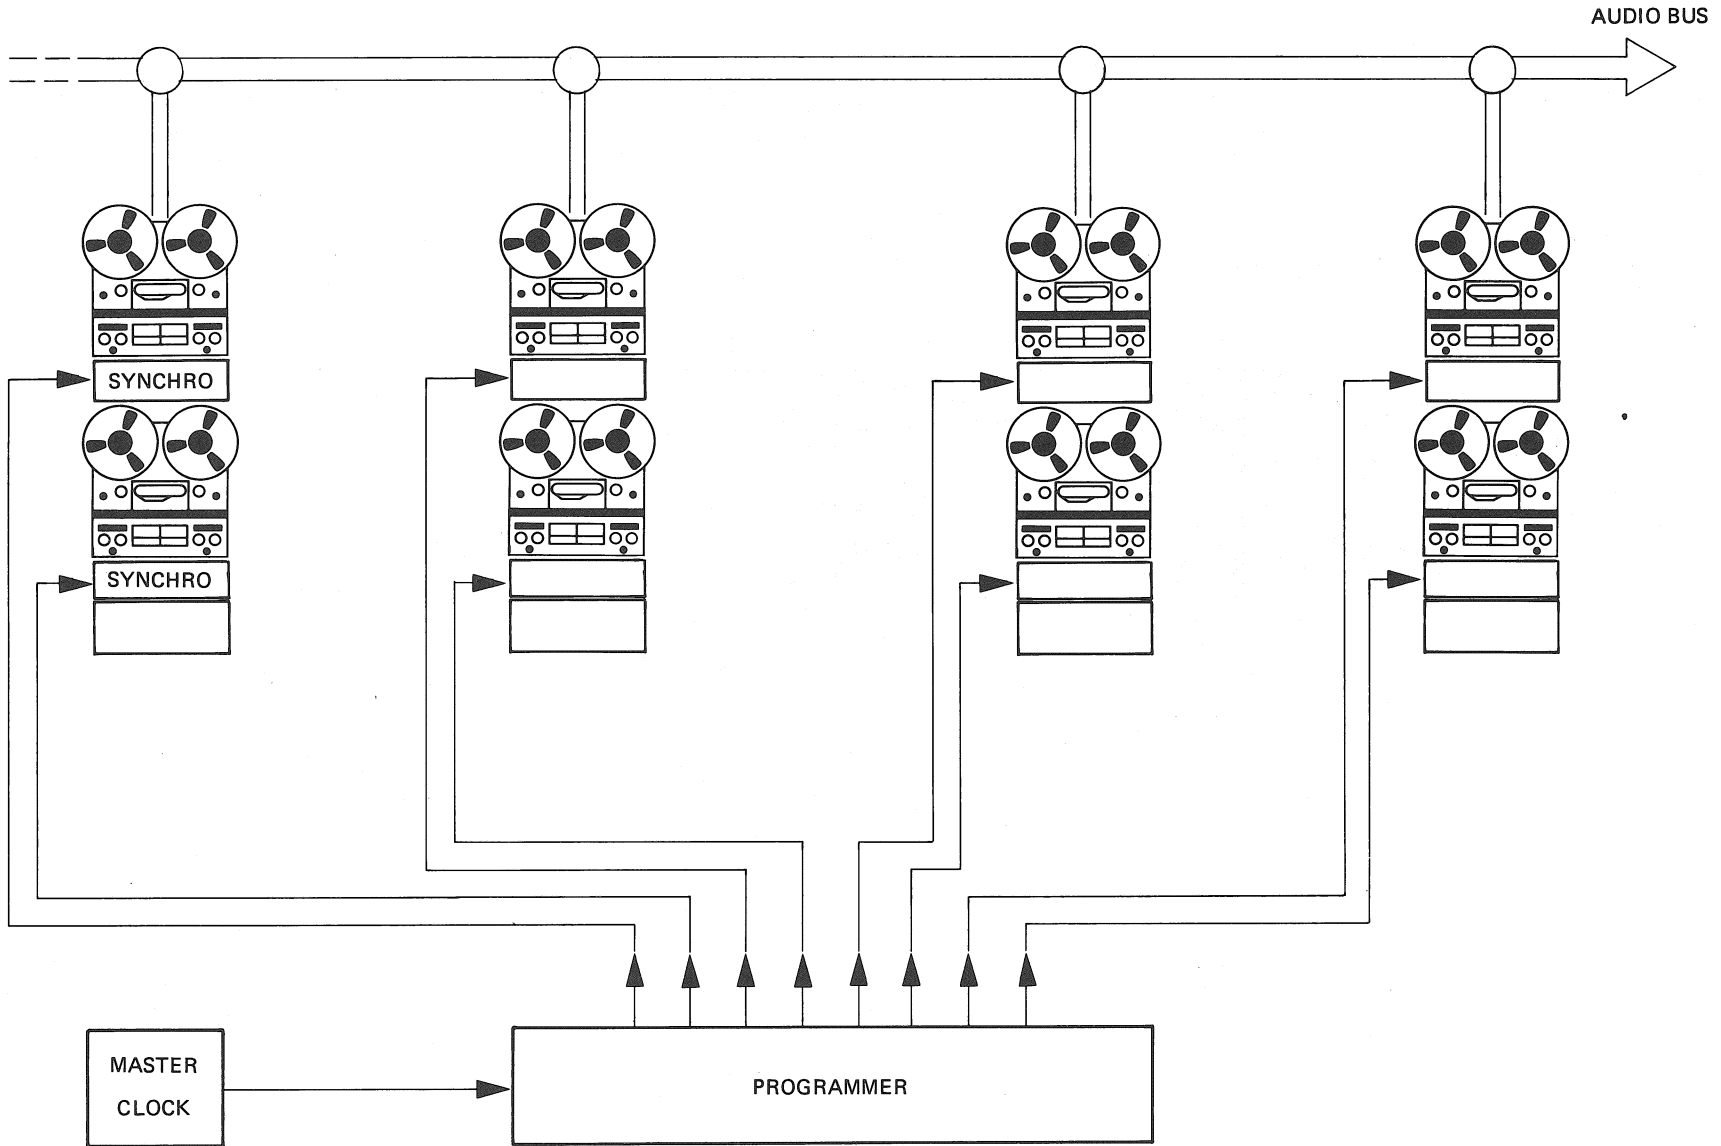

FIG 9
d) Broadcasting Automation Figure 9